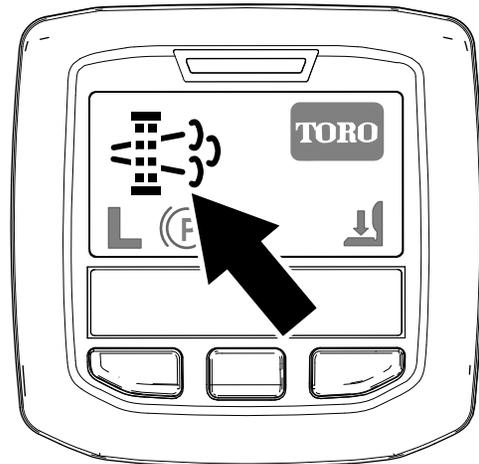

Figure 34
- The parked-regeneration requested icon displays in the InfoCenter (Figure 34).